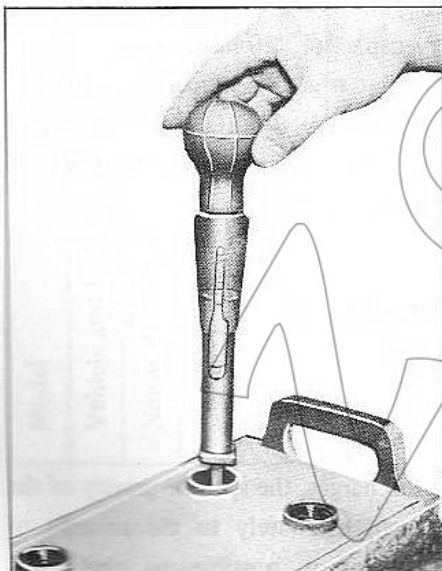

Fig. EE-117
Measure the electrolyte level at the upper surface (A), raised on the side of the glass tube by surface tension, and read the scale float floating freely within the tube at the proper specific gravity level. In reading the scale float, your line of sight should be even with the level of the electrolyte. (See Figure EE-117.)